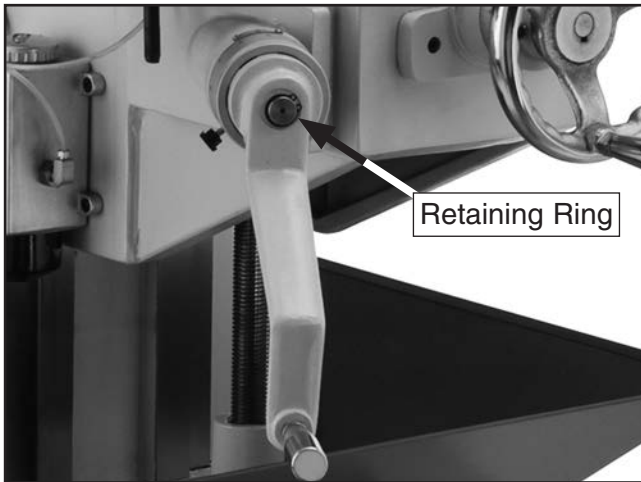

Figure 18. Vertical crank handle properly installed.
3. Remove the retaining ring from the end of the vertical crank screw, reverse crank handle, then re-install the retaining ring, as shown in **Figure 18**.